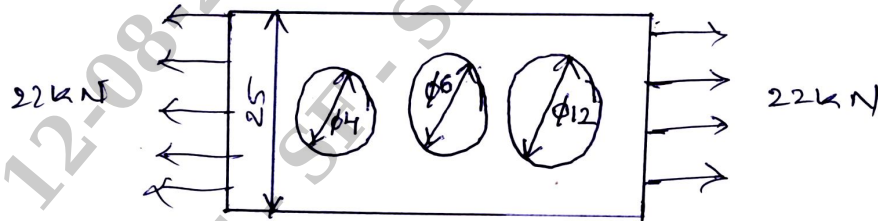

Fig.Q2(b)
b. A rectangular plate 15mm thick made of a ductile material is shown in Fig.Q2(b). Calculate the stresses at each of the three holes considering stress concentrations factor.